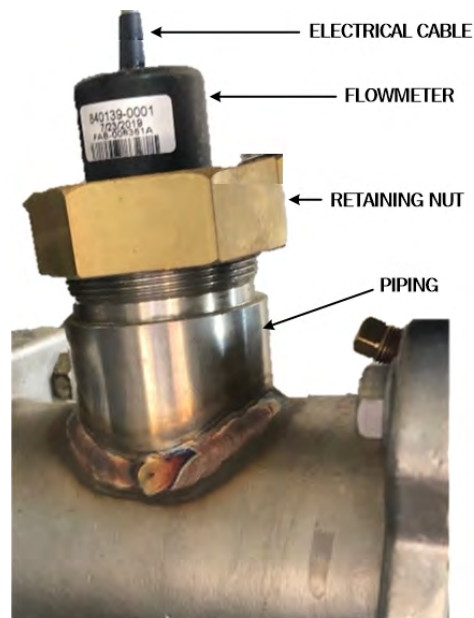

Figure 47. Flowmeter R&R
- D. Using a 2-1/4-in wrench, remove retaining nut. See Figure 47.